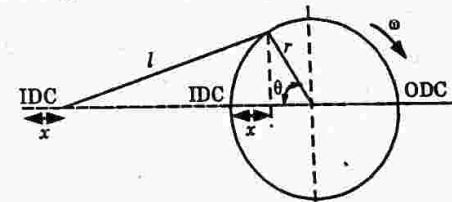

Fig. 4.12.1.
1. Let us consider the displacement of the piston, after a time t from its inner dead centre (IDC) be x (as shown in Fig. 4.12.1). Then one can write,